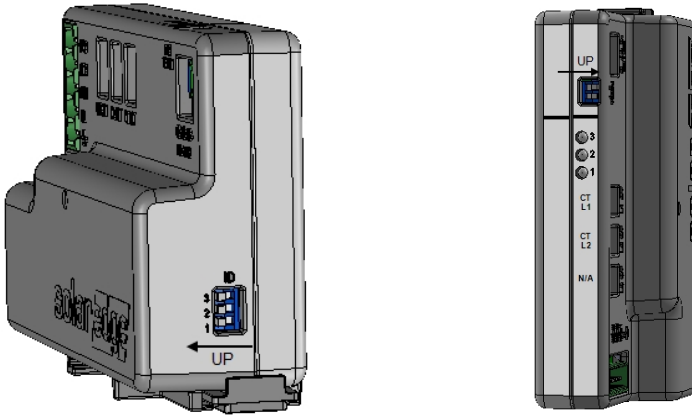

Figure 31: ID and termination DIP switches
7. In the meter, ensure the RS485-1 DIP switch is down. See *Figure 31*.